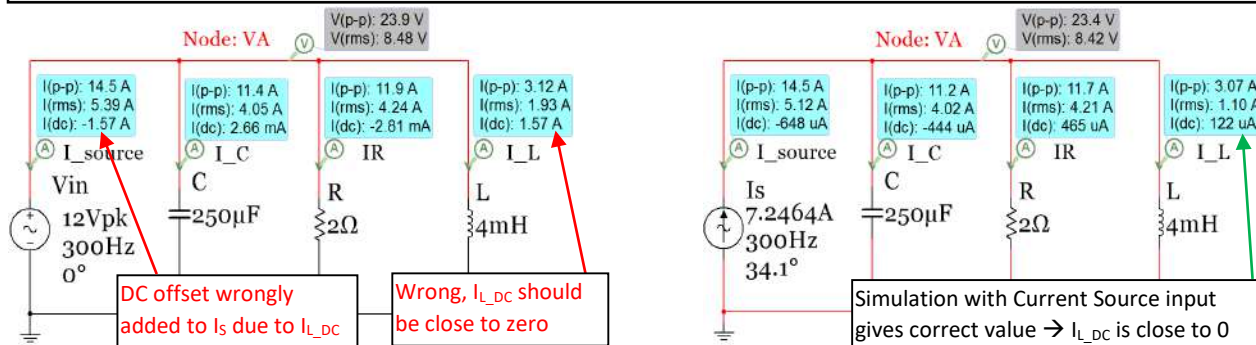
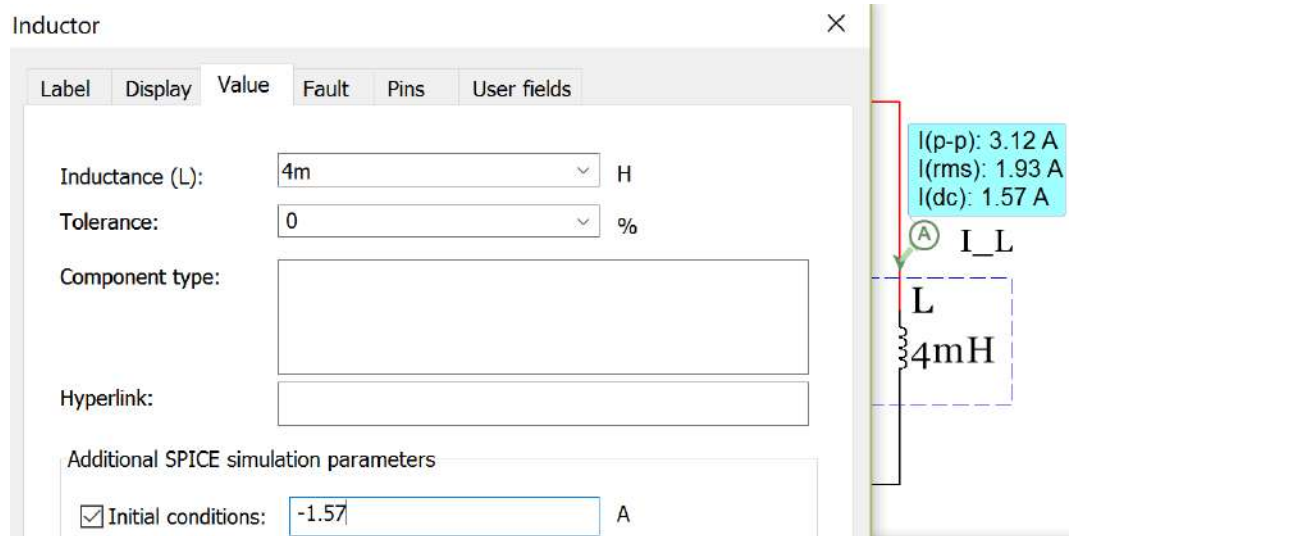
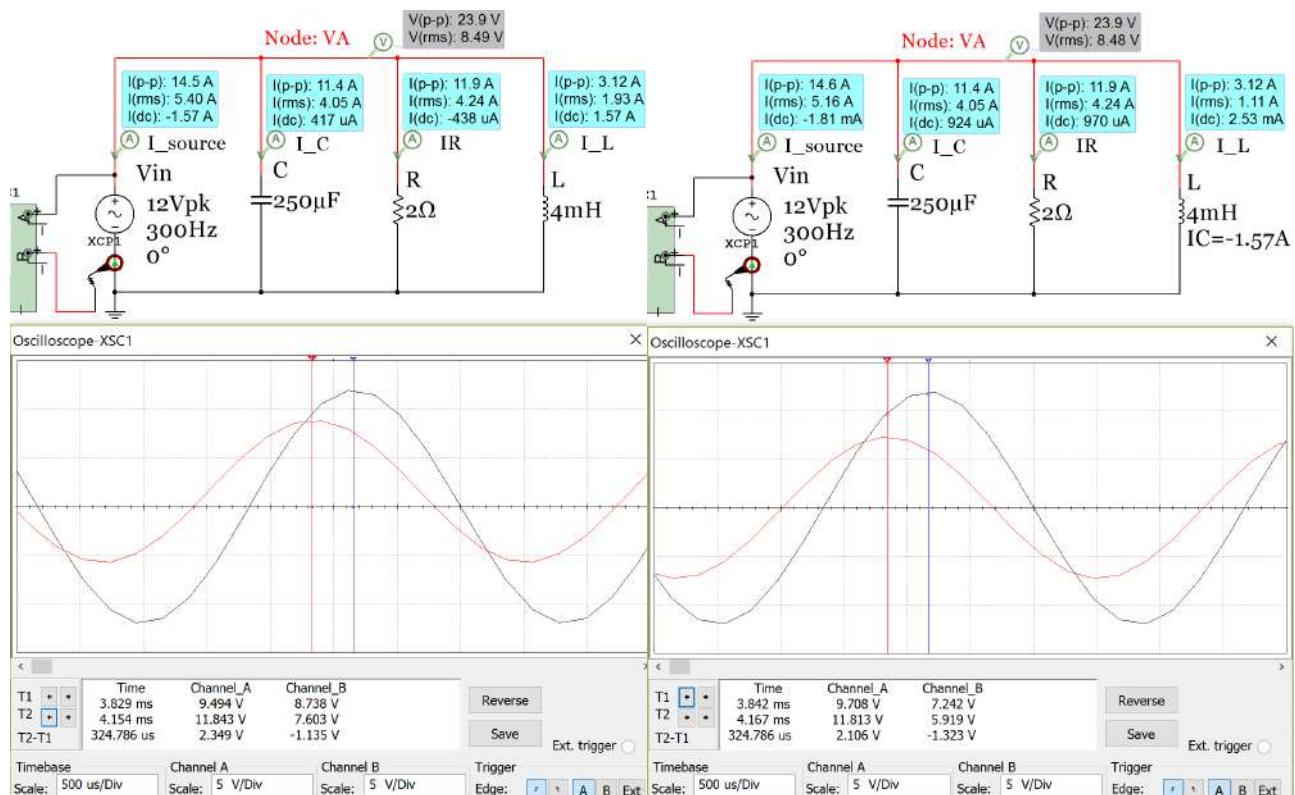

Figure 3.14: Parallel circuit in Example 3.7 with AC Voltage source (Left) and AC Current Source (Right).
Figure 3.15: Inductor dialogue box to enter the DC offset as the initial condition.
Figure 3.16: Parallel RLC circuit from Example 3.7 – Phase Verification in Multisim.
The reason the RMS I_s and I_L don't match the calculations is due to the DC offset that is wrongly included in the simulation as shown in Figure 3.14 (this link gives more info). Here are some options to avoid this error.
- Calculate I_s and use a current source instead of a voltage source. There is no DC offset in Figure 3.14.
All of the voltages and currents have been calculated above and the magnitudes were verified in Multisim. To verify the phase the oscilloscope is needed. To remove the DC offset of the inductor, method 3 described in Figure 3.14 will be used. Figure 3.15 shows the dialog that comes up when you double click on the inductor. Since the DC offset was measured to be 1.57A, a value of -1.57A is entered into the initial condition box to correct for the DC offset. Figure 3.16 (Left) shows the plot of V_{in} and I_S for the initial circuit without modifying the initial condition of the inductor. Due the DC offset the peak value of I_S is measured to be 8.738 A which is about 1.5 A higher than the calculated value of I_{S_pk} (7.2464 A). In the right plot of Figure 3.16 the initial condition of the inductor is included and the DC offset is removed from both I_L and I_S .
The time shift, t_s , in Figure 3.16 is measured to be - 0.324786 ms (t_s is negative because its sinusoidal cycle starts before V_{in}). The phase of I_s is calculated below and matches the calculated value (**34.1°**) fairly closely.
- Even though the ELI the ICE man pneumatic doesn't apply to parallel circuits it DOES apply once the total impedance is determined and you want to compare the source current to the input voltage. In this example I_s LEADS V_{in} (ICE) because the total impedance phase angle is in quadrant IV (-34.1°). This is verified in Figure 3.16.